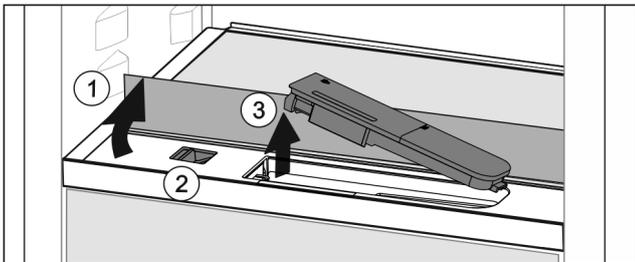

Fig. 133
- ▶ Lift the glass panel and fold towards the rear until it clicks into place Fig. 133 (1).
- ▶ Slide the slider Fig. 133 (2) to the left.
- ▶ Remove the water tank Fig. 133 (3).